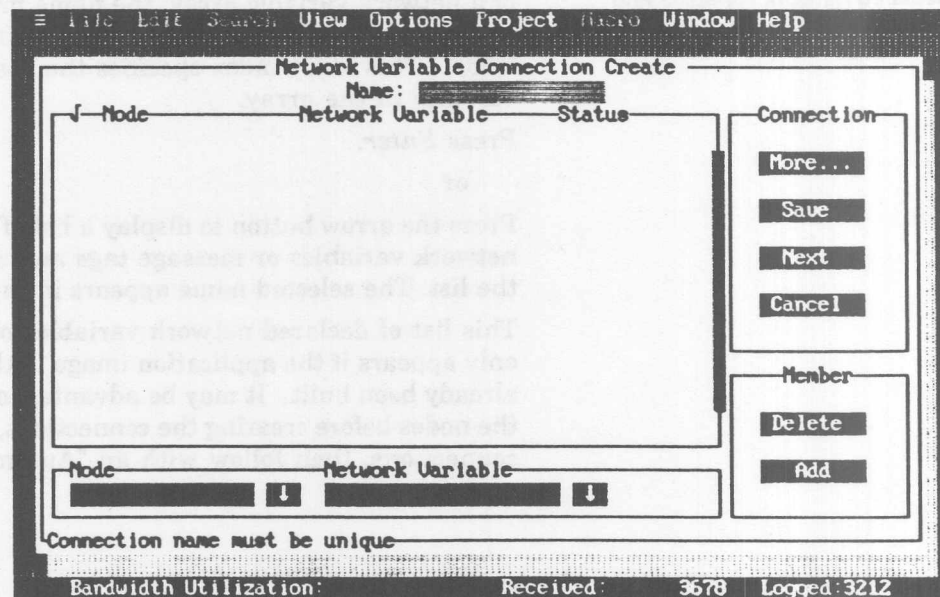
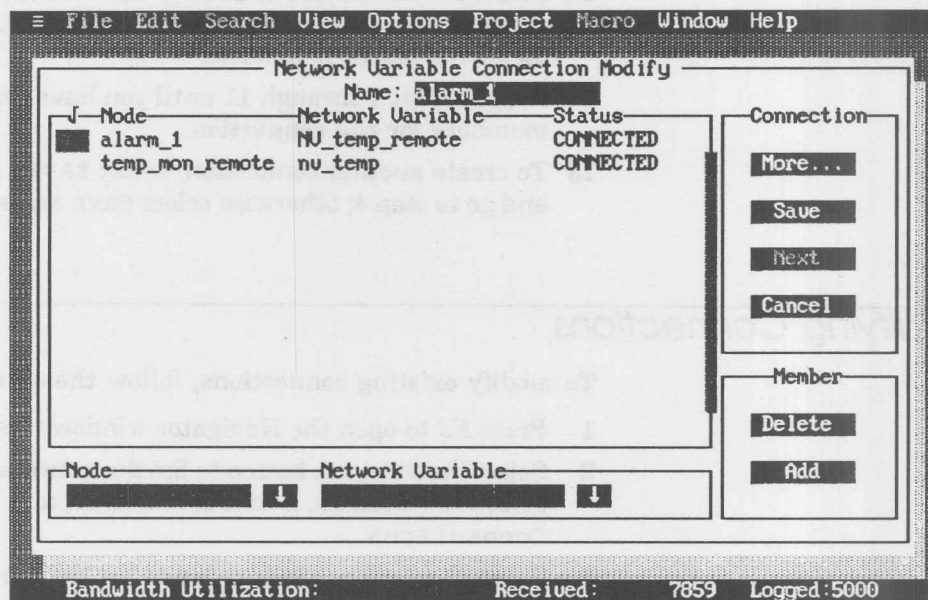
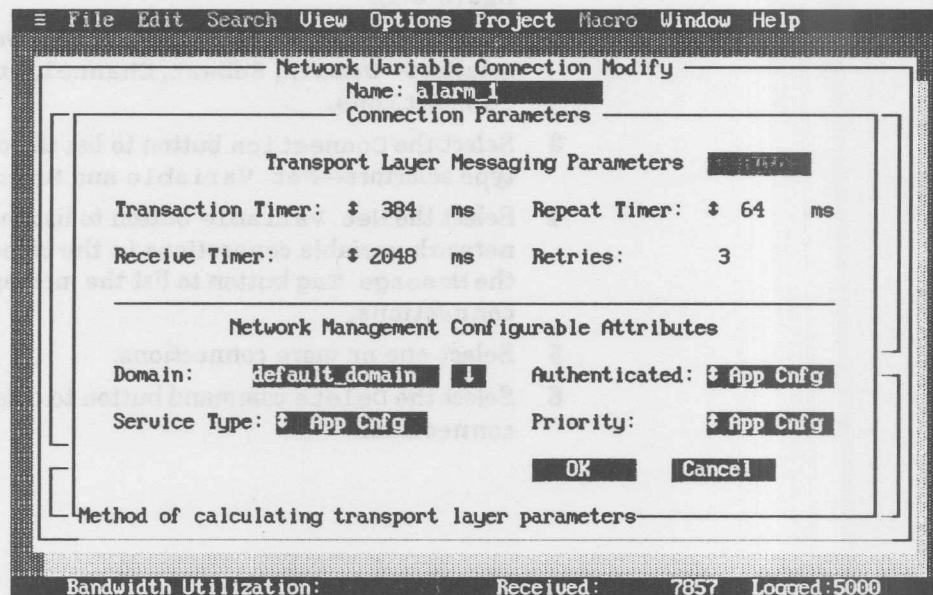

Figure 11-1. Network Variable Connection Create Window
Figure 11-2. Network Variable Connection Modify Window
Figure 11-3. Network Variable Connection Parameter Window
- 5 Select the **Create command** button to open the **Network Variable** or the **Message Tag Connection Create** window. Both windows contain the same fields. Figure 11-1 shows the **Network Variable Connection** window. You use this window to list the members of a connection.
- 6 Select the Modify button to open either the Network Variable or the Message Tag Connection modify window for the first connection selected (see figure 11-3). The name of the connection displays in the Name field. The network variable or message tag members of the connection and their status display in the window. Status can be:
- 1 While in the Connection Create (see figure 11-1, earlier) or the Connection Modify (see figure 11-2, earlier) window, select the MORE button to open either the Network Variable (figure 11-3) or the Message Tag (figure 11-4) message parameter window.